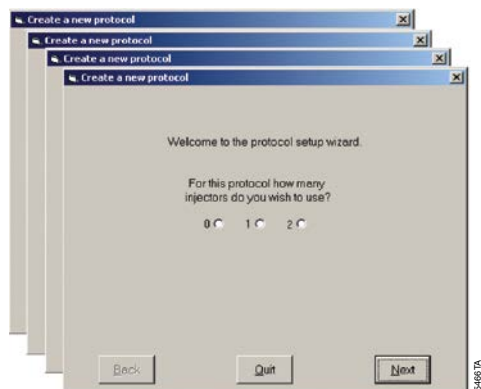

Figure 8. The Protocol Setup Wizard.
1. If you wish to select all of the options manually, then click on “Create New Protocol” to launch the “Protocol Setup Wizard.” It will guide you through a series of steps to customize your protocol (Figure 8).